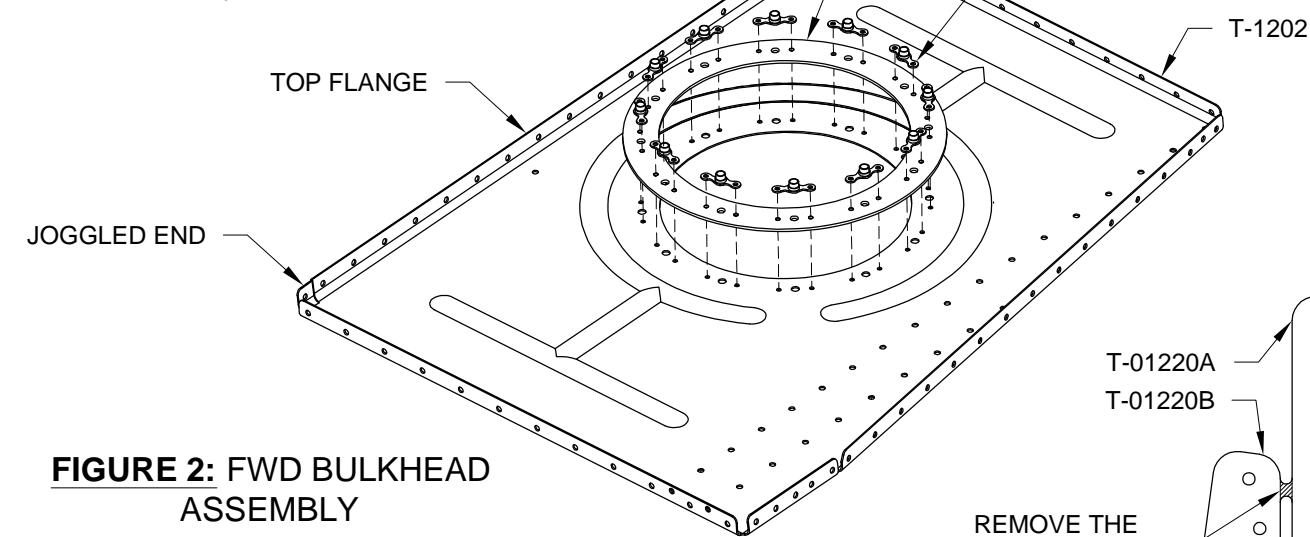

FIGURE 2: FWD BULKHEAD ASSEMBLY
Step 3: Adjust the joggled ends of the T-1202 Fwd Tank Bulkhead top flange to be parallel to the rest of the top flange as shown in Figure 2.
Step 5: Rivet the nutplates, T-407 Ring and T-1202 Fwd Tank Bulkhead together as shown in Figure 2. Refer to the fwd tank bulkhead and ring as the Fwd Bulkhead Assembly.